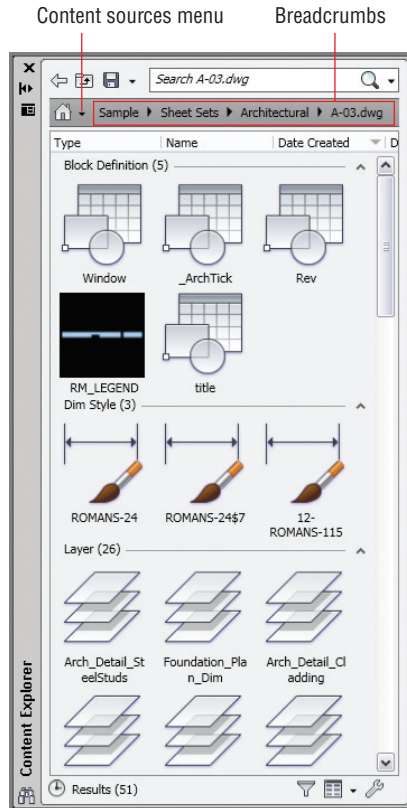

FIGURE 9.16 Content Explorer showing content within a specific drawing
5. Double-click the **Sample** folder that appears in the Content Explorer. Then double-click **Sheet Sets**, **Architectural**, and **A-03.dwg**. The Content Explorer shows all the block references, block definitions, layers, layouts, and styles present in the drawing (see Figure 9.16).